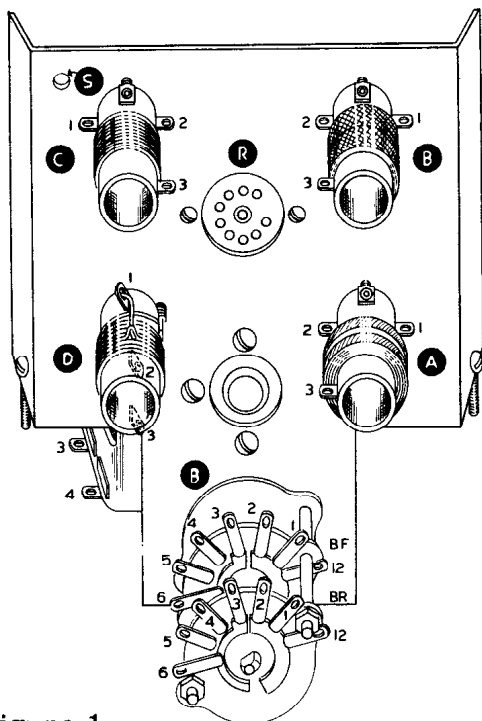
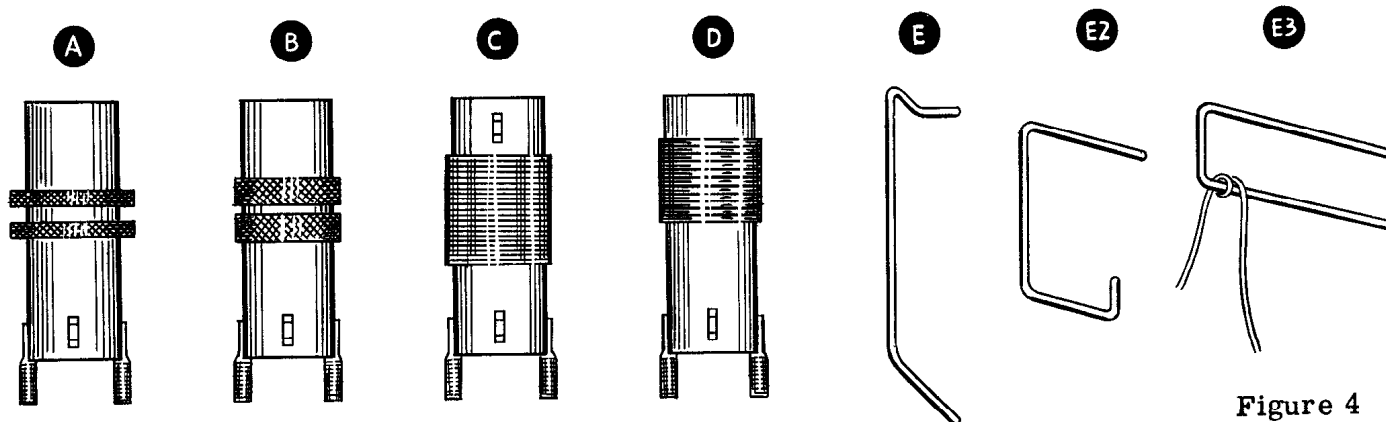

Figure 1
Figure 4
- () Mount a 9-pin miniature socket R on the sub-chassis, using 3-48 screws and nuts. Position as shown in Figures 1 and 2.
- () Mount the tuning condenser as shown in Figures 1 and 2, using 3/16 6-32 screws with lockwashers under the heads.
- () Referring to Figure 4 for coil identification, and Figure 1 for coil position, mount the coils A, B, C and D. Referring to Figure 2, note that coil C has a 3-lug terminal strip mounted on its lower mounting screw, and coil A has a solder lug on its upper mounting screw. Use lockwashers on all coil mounting screws except the one having the solder lug.